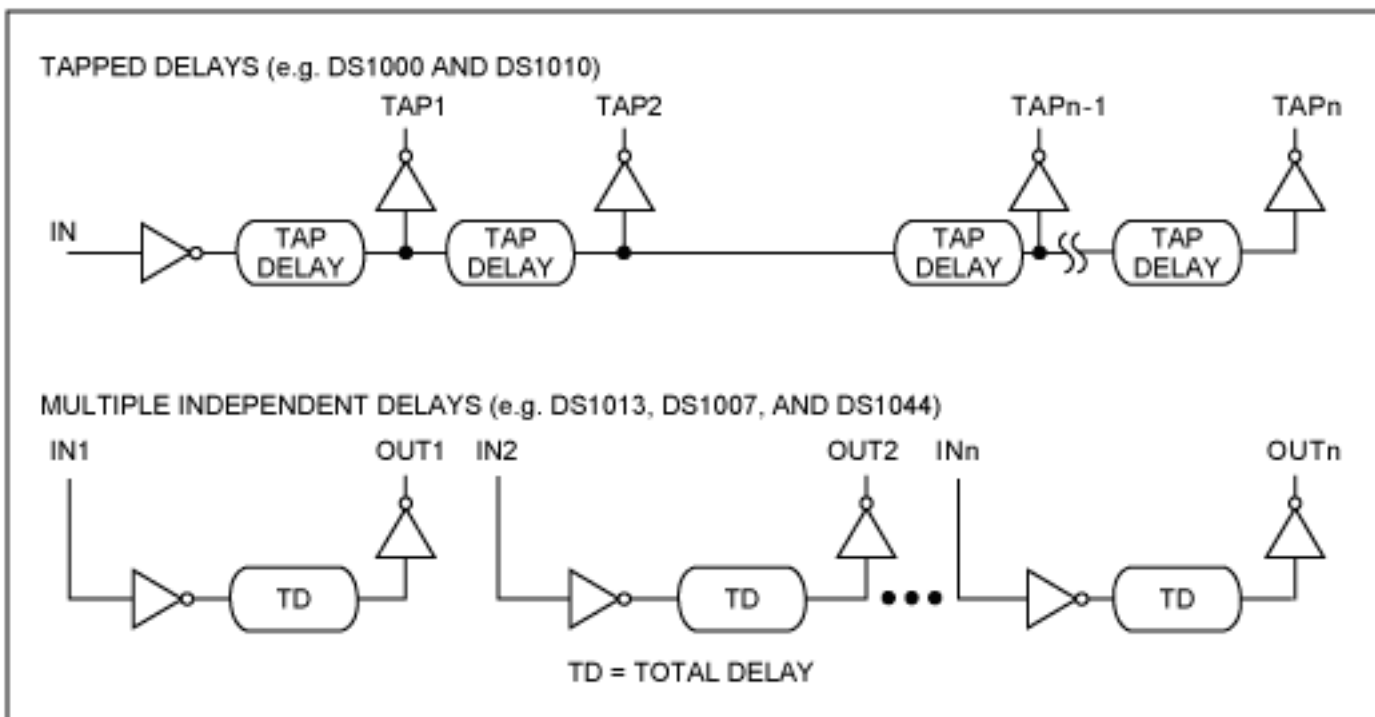

Figure 5. Delay line families.
4). A comparator is used to detect the ramp reaching the reference voltage (V_{REF}); this sets or resets the output latch. The DS1013 family has three independent blocks in parallel while the DS1000, DS1005, and DS1010 families have the blocks connected in series with a single external input (**Figure 5**). All silicon delay lines, unlike most TTL-based hybrids, have true CMOS output levels.